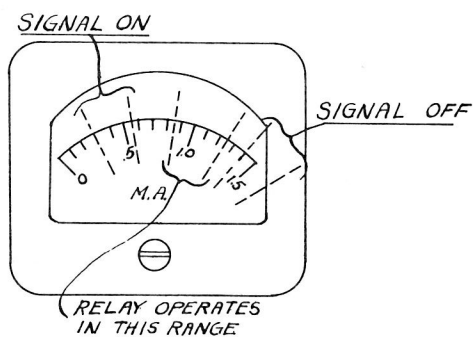

Fig 4
- 9.2 The relay is set at the factory to drop out (actuate the escapement) at approximately .85 milliamps and pull in (release the escapement) at 1.2 milliamps. (See Fig. 4).